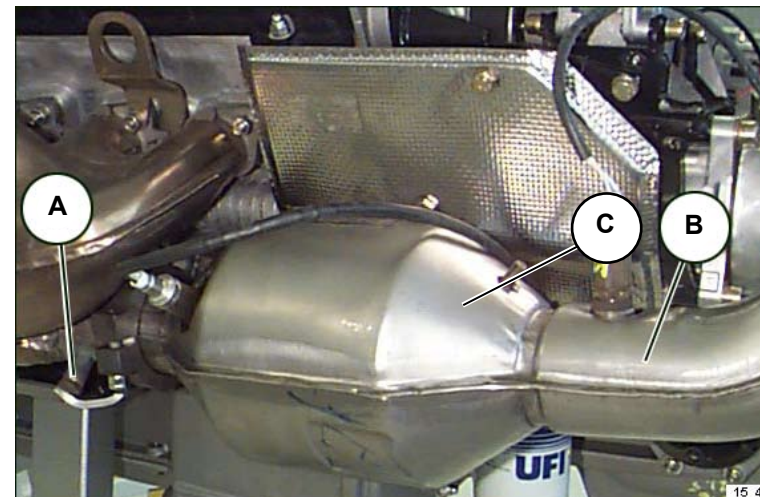

Fig.1
- Sample exhaust gas from the specific vents (**A-Fig. 1**).